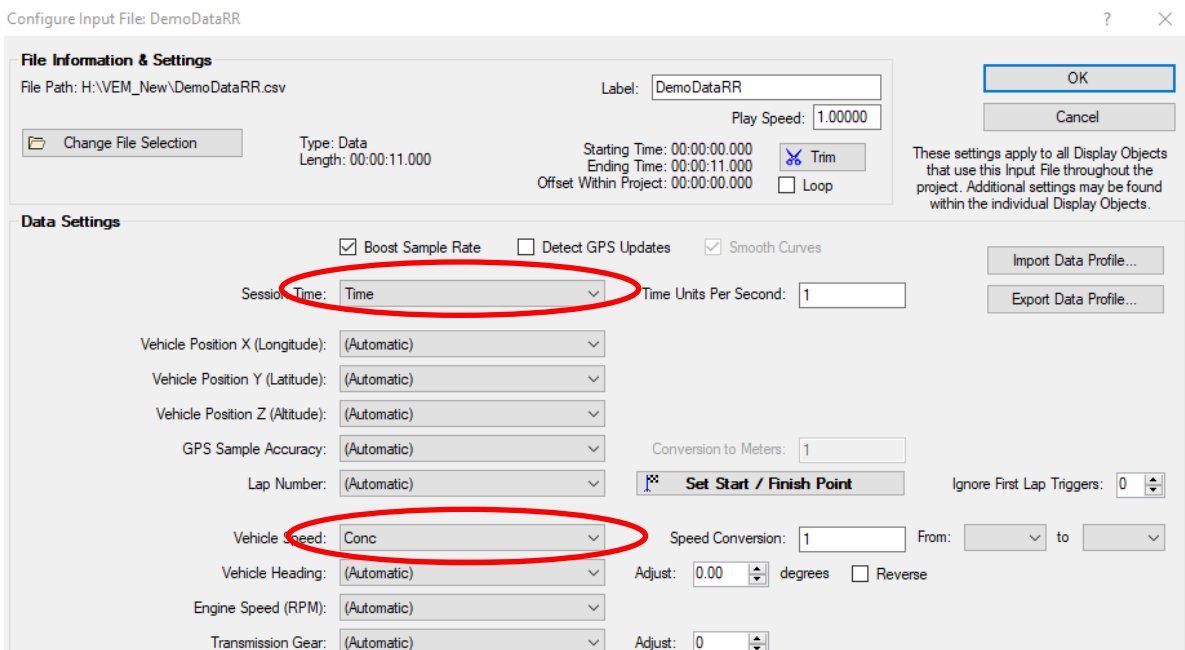
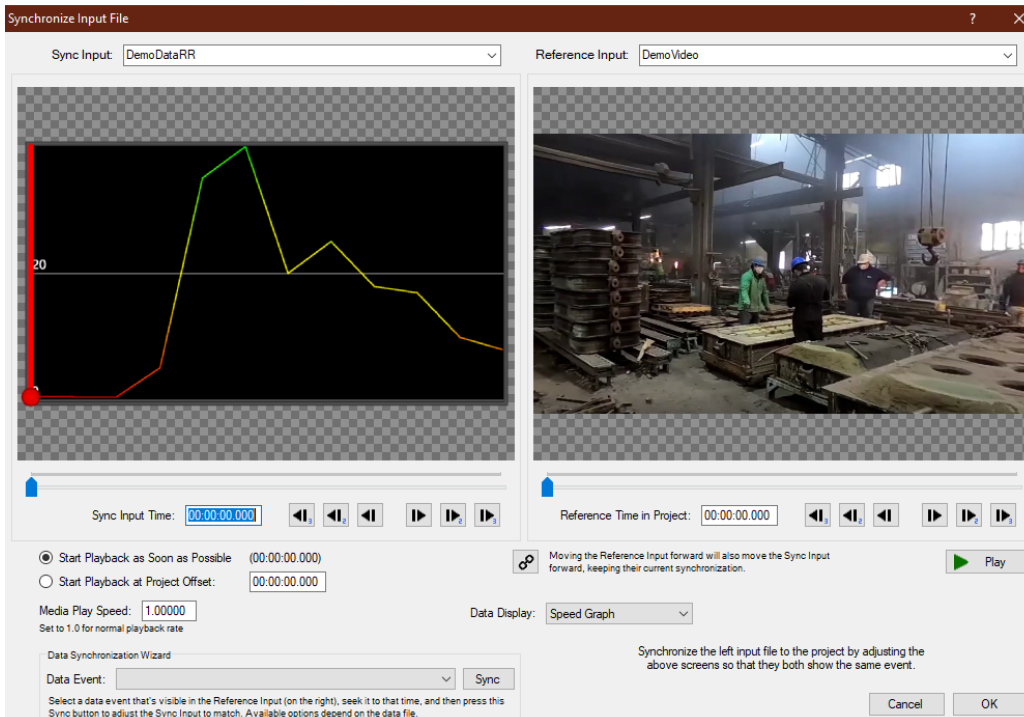

Figure 24 File Information & Settings window.
Figure 29 Side by side synchronization panel.
4. In the Input Files box, you will see both of your files. Double-click on the data file or highlight the data file and click the Config button above the file names. This will open the File Information & Settings window, as seen in Figure 24.
duration of the offset that you would like to insert between your video and data. This is a straightforward process. If you need to view the data and video side-by-side to see where the best point for synchronization is, it is best to use the Side by Side tool (Figure 29). The Synchronization Tool will not be discussed further due to its straightforward nature. The following can be used to help you use the Side by Side synch tool:
1. In order for you to be able to use the Side by Side synch tool, you will need to ensure that your input file is configured. To do this, double click the icon for your data file in the Input Files panel. This will open the Configure Input File panel (Figure 24). If you don't have time set and either Conc or Noise in this panel, see the previous section on Starting a Project. With both of those variables set appropriately, you should see a line graph of your data in one panel and the video in the other panel, as seen in Figure 29.